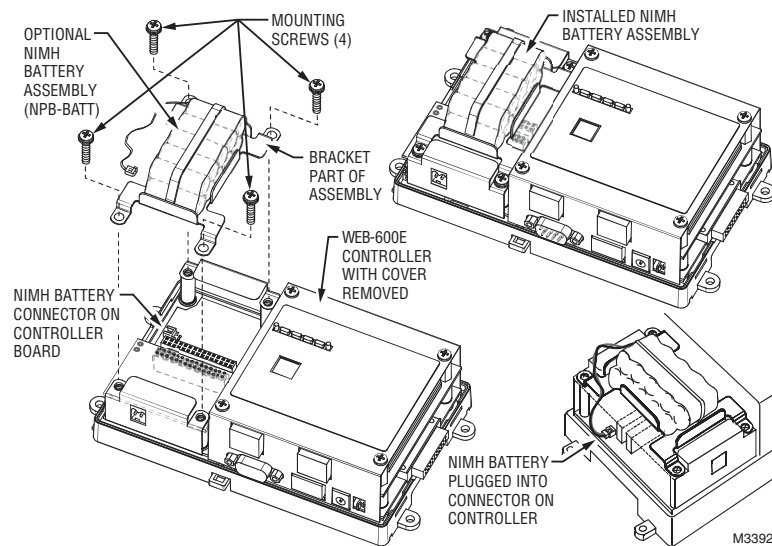

Fig. 9. Optional NiMH battery pack in WEB-600E controller.
The optional NiMH battery pack is sold as an assembly, that is a custom battery pack with an attached cable and connector plug, mounted on a bracket. To install (or replace) the battery, you must remove power to the controller and remove its cover. Then you mount the battery assembly on top of the option card area (Fig. 9).
5. If a battery assembly is already mounted, unplug the battery from the connector on the controller board (see Fig. 9).
8. Plug the battery connector plug of the new battery assembly into the battery connector on the controller (see Fig. 9).